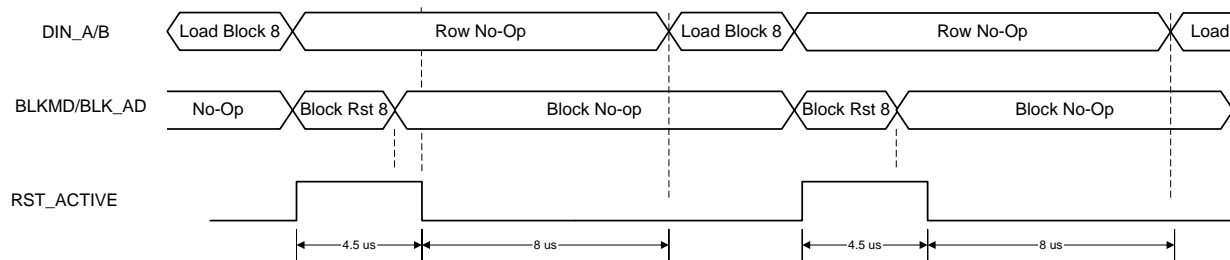

图 14. Block Load, Reset, and Same Block Reload
Once the block is loaded with data, a Block Reset (MCP) for that block must be initiated. This can be performed by providing a row cycle with BLKMD = "10" and with BLK_AD(3:0) equal to the block just loaded. Upon initiation of the Block Reset, RST_ACTIVE will transition high for approximately 4.5 μs indicating a Reset operation is taking place and that no additional Reset Requests will be accepted during that time. In the case of wanting to reload the same block with new data, one must wait for the 12.5 μs (RST_ACTIVE (4.5 μs) + the micromirror settling time (8 μs)) before the reload of the same block can start. Waiting this time allows for the DMD micromirrors in that block to settle to a stable state prior to reloading the memory cells underneath with new data. 图 14 shows a single block load, Mirror Clocking Pulse and reload sequence with the 8 μs periods indicating micromirror settling times.
Although 图 14 shows that one must wait for the mirror settling time of the current block (Block=8 in this case) to complete before reloading data into the same block (8), it is possible to load data to a different block while waiting for Block 8 to settle. However, it must be a block which is not currently being Reset nor which has micromirrors which are still settling. This method is used in the Phased Mode of operation described in Single Block Phased Mode.